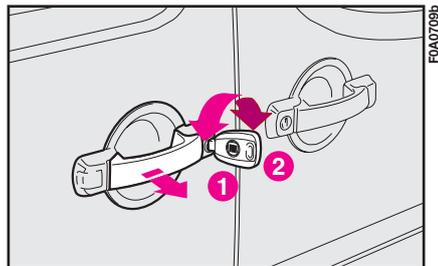

fig. 110
**Opening:** turn the key to **2**-fig. 110 and pull the handle in the direction of the arrow then, make the door slide backward to the stop limit catch.
**Closing:** use the external handle and push the door forward. Turn the key to **1**- fig. 110.
**Opening:** pull the handle as shown by the arrow **fig. 110** and make the door slide backward.
**Closing:** pull the handle as shown by the arrow **fig. 110**, thus releasing the lock and make the door slide forward.